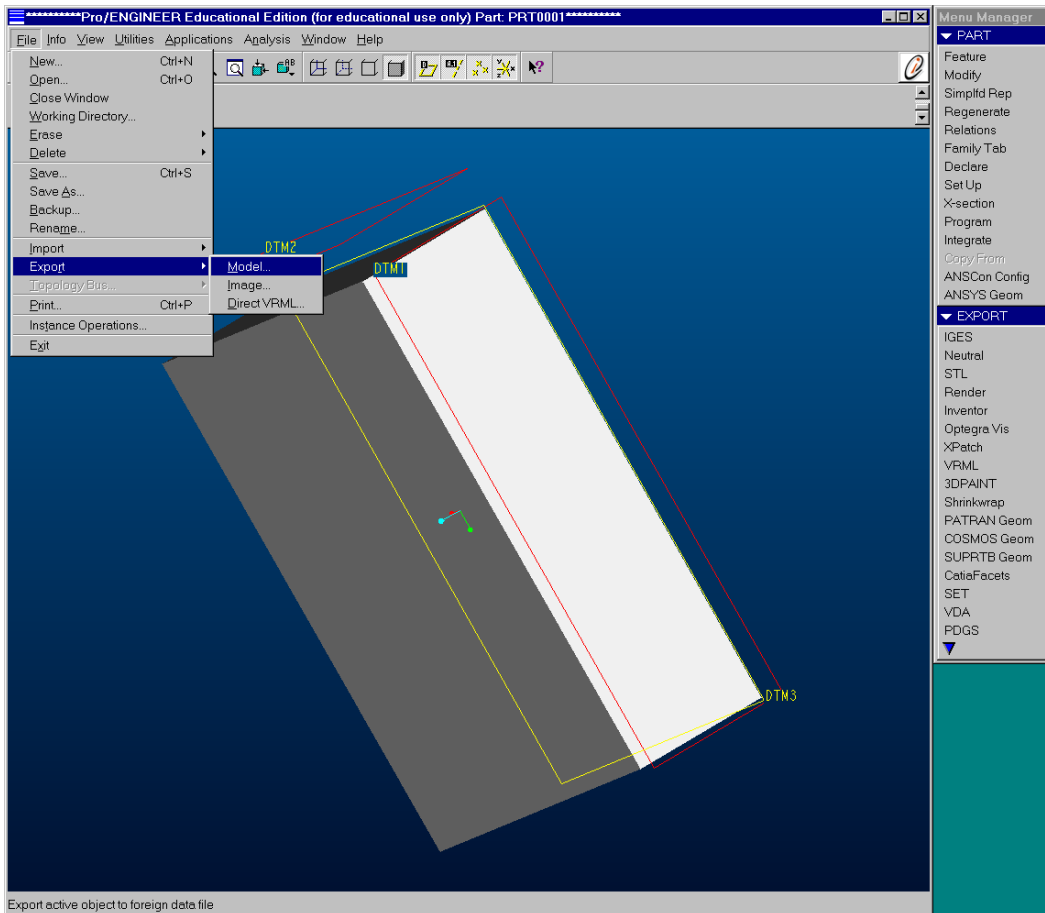

Figure 1: Exporting STL file from Pro-E.
3. After creating file in Pro-E or Solidworks export as .STL file. **Be sure to create model file using mm units.** In Pro-E choose **File** menu then arrow down to **Export**. Choose **Model** and choose on the right side **STL**. Under Options leave angle control at default setting of 0.5, however the coarseness of plastic part can be controlled using Deviation Control setting, the smaller the setting the more accurate the part but it will also take longer to build with Rapidprototyper. See figure 1 below.